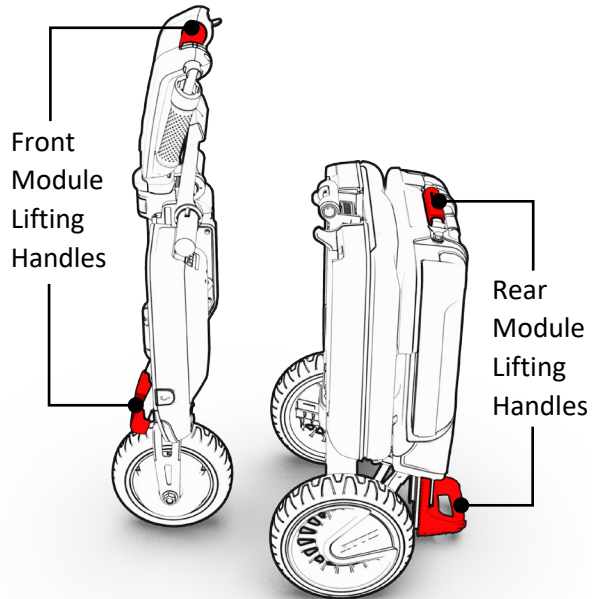

Figure 46 – lifting points
2. Grab the one of the chassis from designated handles and carry it to its destination (See Figure 46).